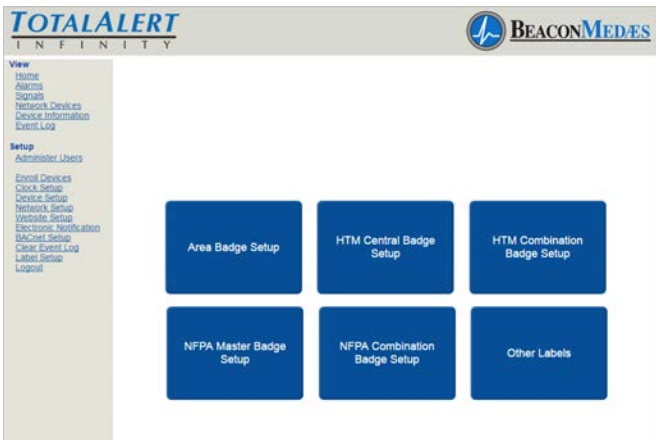

Figure 284
1. Choose HTM Combination Badge Setup button. (See Figure 284)